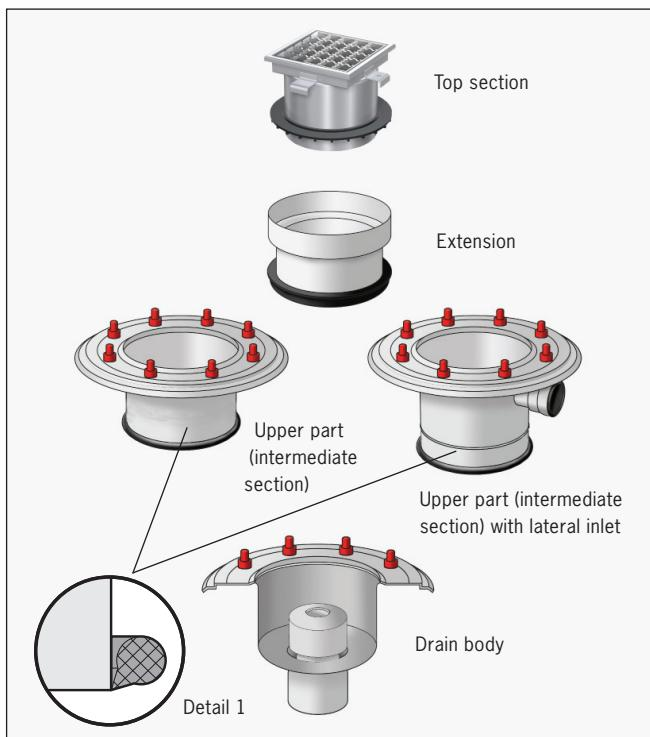

Fig. 7
- During assembly of upper part, the correct seating of the sealing ring (lip pointing downwards) is important (refer to detail 1). The sealing ring (fig. 7) prevents the ingress of back-flowing wastewater into the existing floor structure.